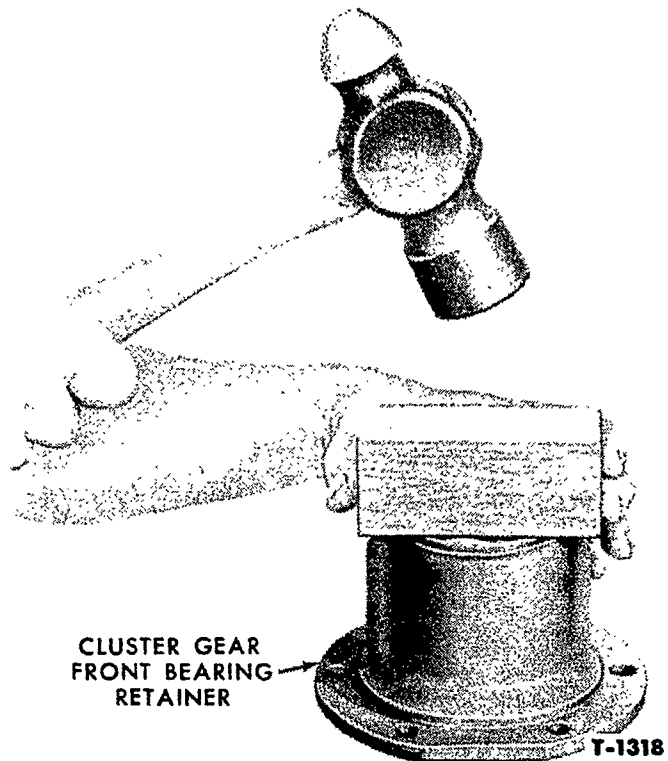

Figure 17—Installing Bearing Cup in Cluster Gear Front Bearing Retainer
2. Install the bearing cup in the bearing support with Step Plate 630-12 or a wood block and hammer, Figure 17.